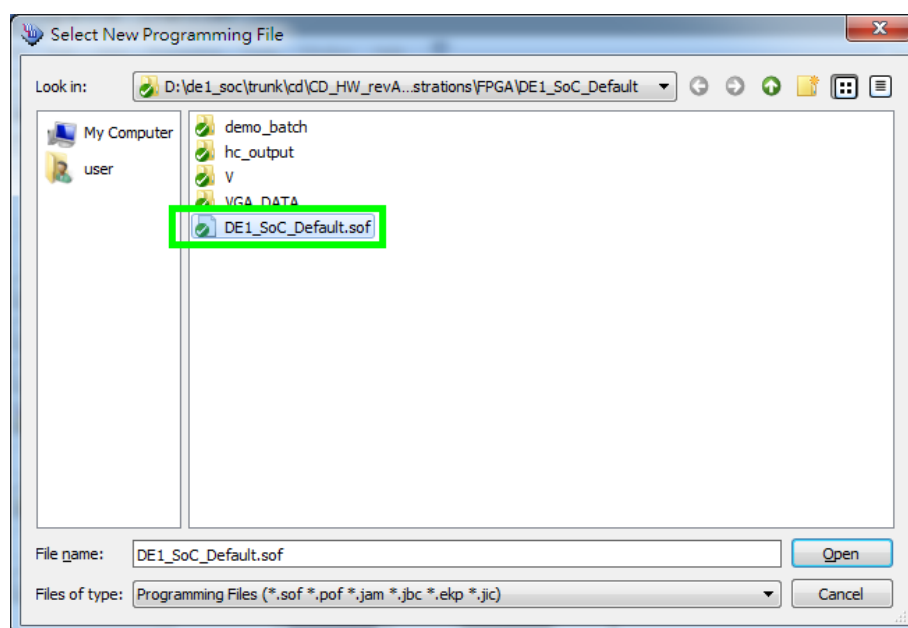

Figure 3-6 FPGA JTAG Programming Steps 5
- Select .sof file for FPGA as **Figure 3-6**